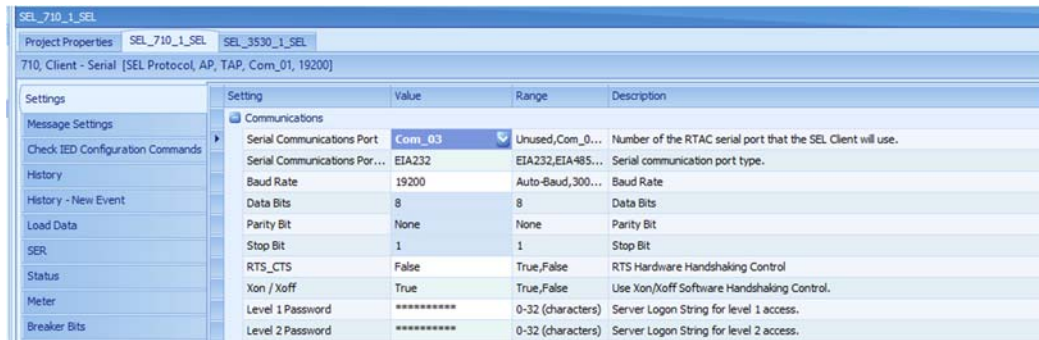

Figure 92: SEL-710 Port Selection
93. Select the SEL-710 device under the devices folder. Change the “Serial Communications Port Value” to Com_03 under the Settings tab as shown in Figure 92. Confirm that the baud rate is 19200. All other values can be left as default.